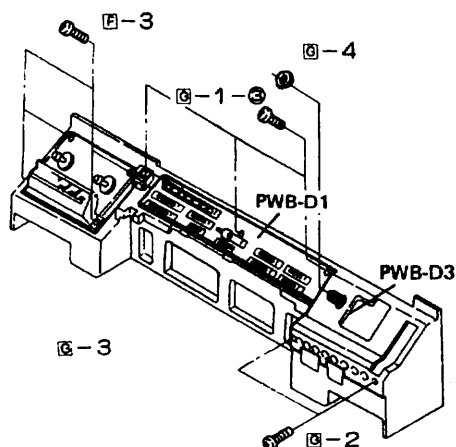
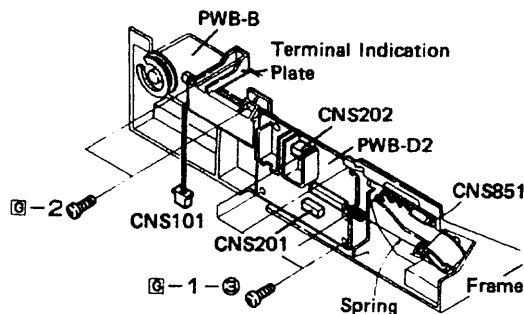

Figure 5-5
Figure 6-1
2. Pull out three sockets (CNS201, CNS202, CNS851) shown in Fig. 6-1.
3. Remove four screws at the tape mechanism and a counter belt — shown in Fig. 5-5 and a record/playback change-over spring — shown in Fig. 6-1. Then take the tape mechanism off.
- ③ Detach a dial string, and remove five screws at the PWB-D2 shown in Fig. 6-1 and four screws at the PWB-D1 shown in Fig. 5-5. Take both P.W.B. off.
- ① Detach a dial string, remove one socket (CNS101) and two screws at the terminal indication plate shown in Fig. 6-1, and also two screws at the tuner P.W.B. shown in Fig. 5-5, and take the P.W.B. off.
- ① Remove a nut at the volume P.W.B. shown in Fig. 5-5, and take the P.W.B. off.